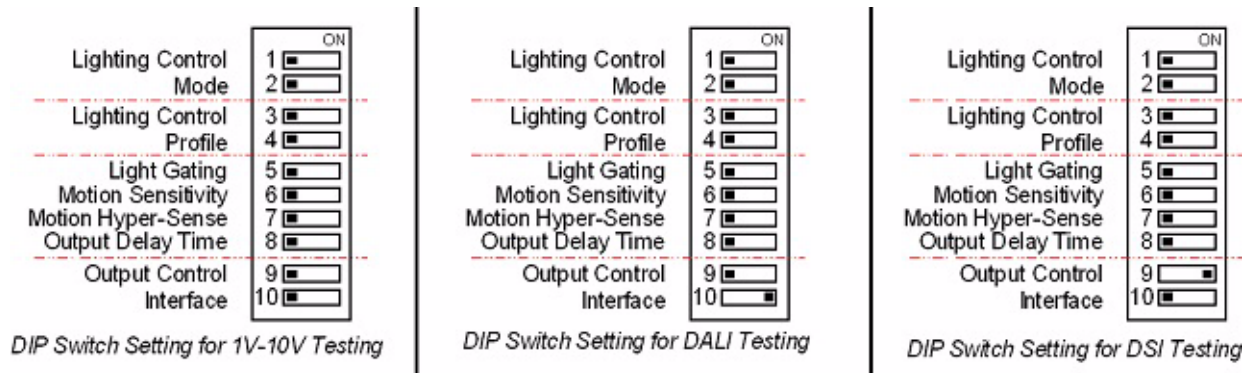

Figure 18. DIP Switch Setting for Testing
11. Set DIP1–DIP8 to occupancy mode, 0% OFF state, 100% ON state, light gating disabled, normal motion sensitivity, disabled motion hyper-sense, 1 minute output delay time. See Figure 18.
12. Set DIP9 and DIP10 to select the desired output control interface (1–10V, DALI, or DSI). See Figure 18.